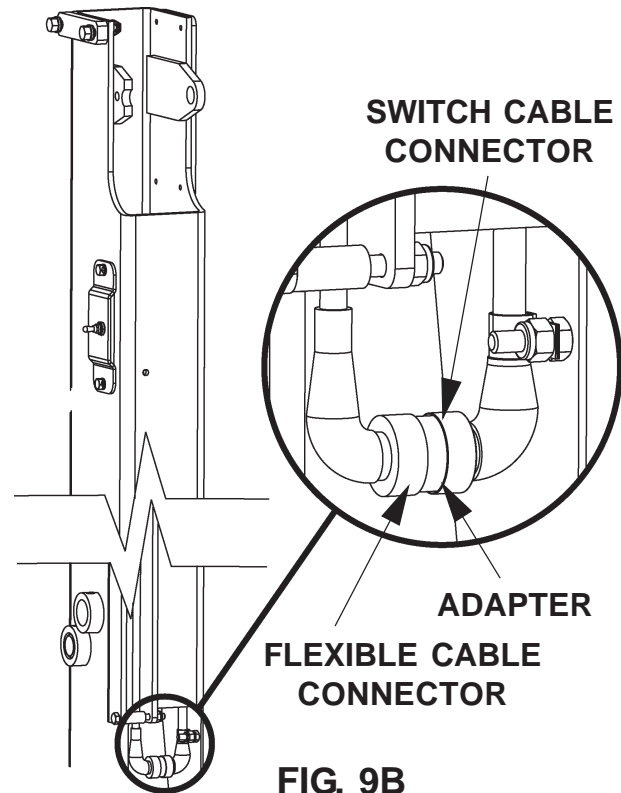

FIG. 9B
7. Disconnect Runner Switch Cable from Connector Adapter near bottom of Runner (**FIG. 9B**).